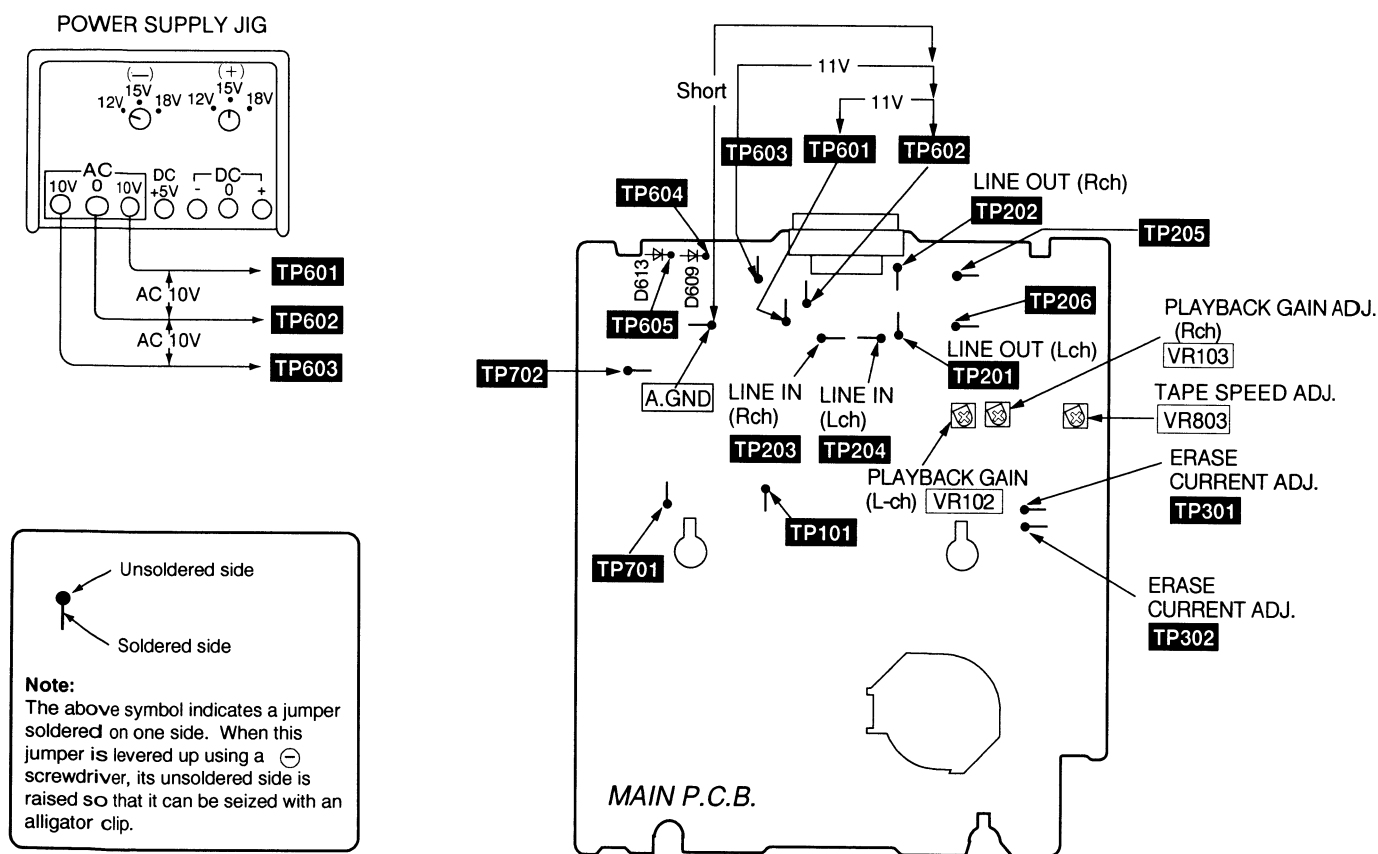

Fig. 1
3. Adjust **VR803** for the output value shown below. (Refer to Fig. 1)
3. Adjust **VR102** (Lch) [**VR103** (Rch)] so that the output is within the standard value. (Refer to Fig. 1).